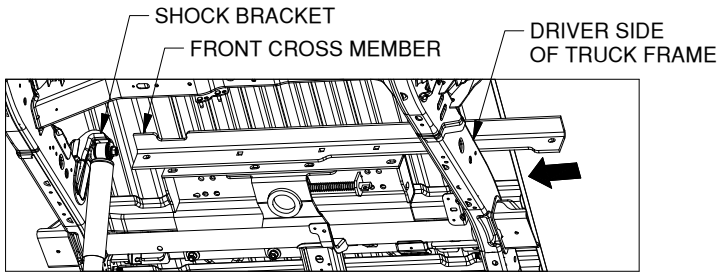

Figure E1: Looking up at center section. (Fuel tank not shown.)
- 1. Position front cross member.** Locate the front cross member. Orient the front cross member so the leg with the holes is vertical, as shown in Figure E1. Slide the end with the short notch between the frame and truck bed from the driver side. The notch in the top leg will allow clearance around the shock bracket on the passenger side when fully installed.